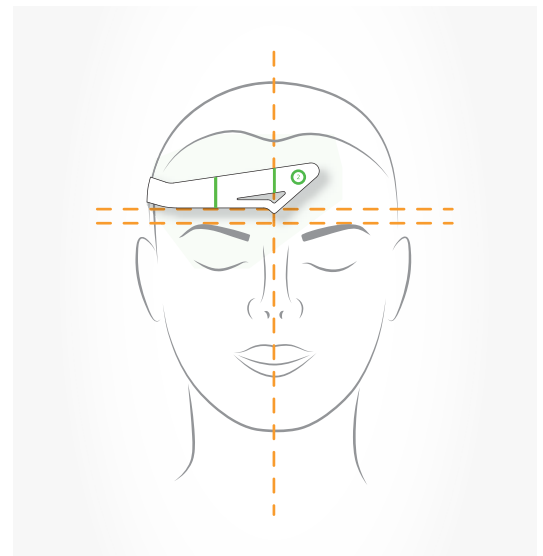

Figure 16: Position the electrodes above the nose and eyebrow.
- Position the Reference electrode (the vertical green stripe next to nr 2) at the center of the forehead above the nose, and one finger above the eyebrow. The triangle shape of the DeltaScan Patch (under the green stripe) points towards the nose. The other electrode (green stripe) automatically is at the right position too, above the eyebrow. See Figure 16.